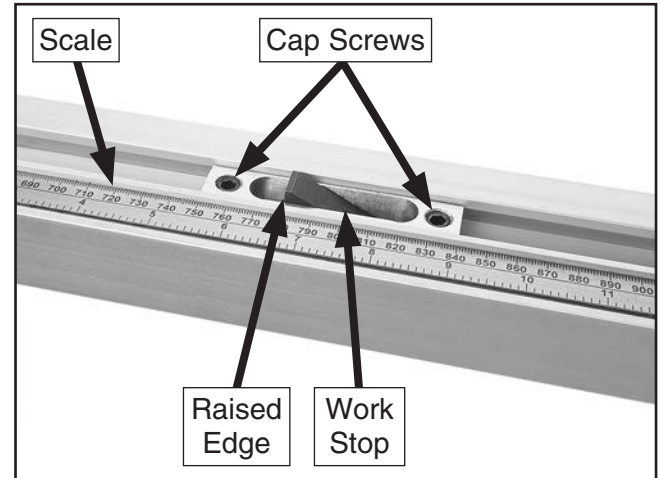

Figure 35. Workpiece support rod work stop adjustments.
- Loosen (2) cap screws on center workpiece support rod work stop (see **Figure 35**). Move work stop to match measurement taken in **Step 1**, using machinist's square to align raised edge with scale. Tighten cap screws.